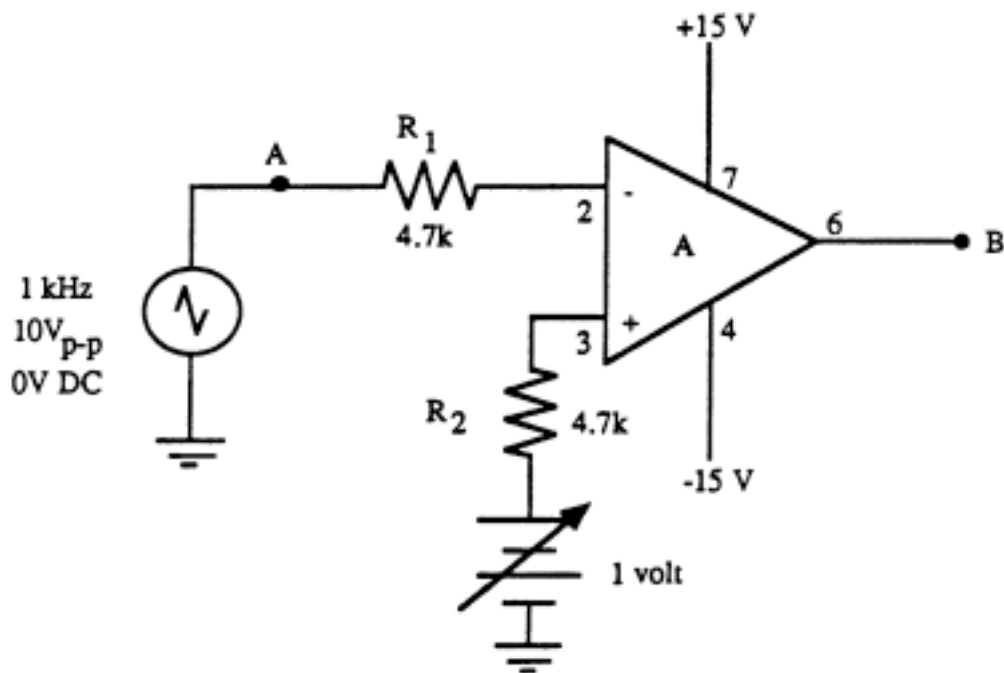

Figure 1 - Op-Amp comparator circuit
- (1) Build the comparator circuit of Figure 1. The variable DC offset shown connected to the positive terminal of the Op-Amp is generated by using the 5V part of the triple power supply. Initially, this voltage is to be set to 0V.
- (2) Using the waveform generator, create a triangular input signal to the negative terminal of the Op-Amp with a frequency of 1kHz, an amplitude of $10 V_{p-p}$ and 0 DC offset.
- (3) Display points A and B (input and output respectively) simultaneously on the oscilloscope and record each waveform using HP Benchlink. For more information on how to do this, see Appendix 1. Print these out and turn them in with your lab report.
- (4) Carefully note the phase difference between A and B and note the two switching points in Table 1. The phase difference is defined to be the time difference between the time the input waveform (point A) crosses 0V and the time the output waveform (point B) crosses 0V. To do this, use the cursors and set measurement to time. Place one cursor on the place where the input waveform crosses 0, and place a second cursor on the place where the output crosses 0. Note that this may require manual re-centering of the waveforms, especially if you use autoscale.
- (5) Set the DC offset to +1V and again note the phase difference between points A and B as well as the switching points.
- (6) Repeat step (5) for +2V and +3V DC offset, and at +3V only, again record the waveforms with HP Benchlink Scope.